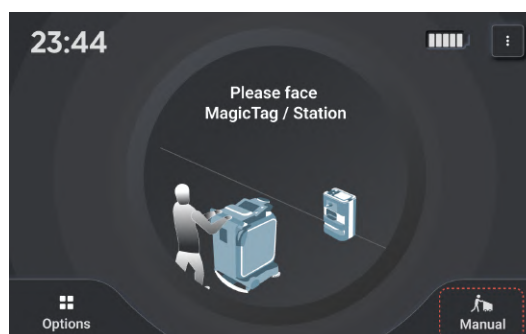

FIGURE 6-23
2. For Magic mode, select the 'Manual' button on the Magic mode home screen (**Fig. 6-23**)